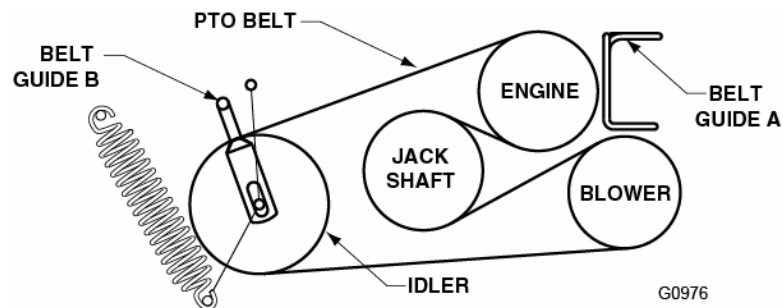

FIGURE 5
- e) Loosen belt guides A and B (See Figure 5).
- g) Route new belts onto sheaves as shown in the decal located on the back of the left drive shield. See Figure 5.